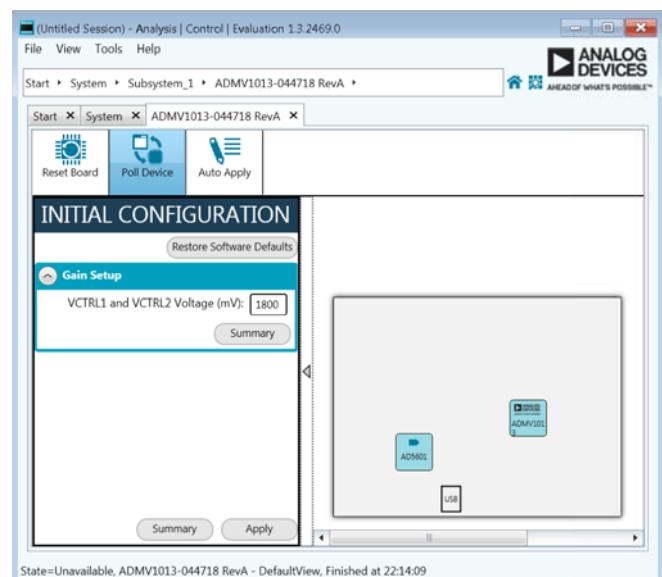
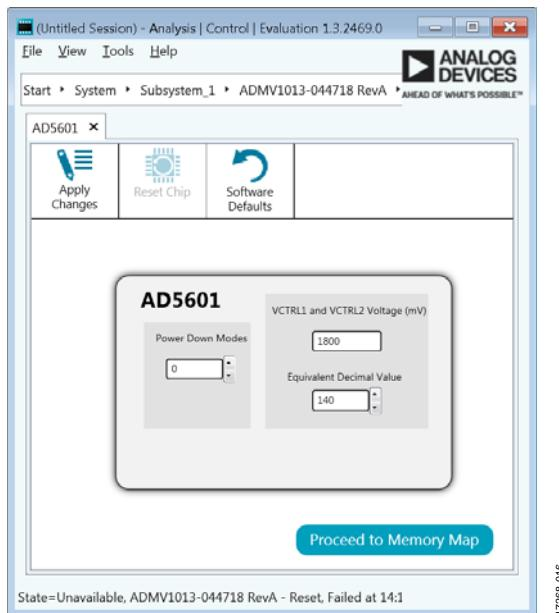

Figure 12. Initial Configuration for the Gain Setup and Board Plugin View
Figure 16. AD5601 *nanoDAC* User Interface
5. When the ADMV1013-EVALZ plugin is double clicked, the **ADMV1013-044718 RevA** tab shown in Figure 12 opens. On the left side of the window, open the **INITIAL CONFIGURATION** section, click **Gain Setup**, and enter the V_{CTRL} in the **VCTRL1 and VCTRL2 Voltage (mV)** box. Note that 1800 mV is the highest gain setting for the device.
The ADMV1013-EVALZ evaluation board comes with the AD5601 *nanoDAC*. The AD5601 *nanoDAC* sets the V_{CTRL} voltage for the VCTRL1 and VCTRL2 pins of the ADMV1013. When the ADMV1013 plugin opens, enter the V_{CTRL} voltage in the VCTRL1 and VCTRL2 Voltage (mV) box in the INITIAL CONFIGURATION section to set the voltage (see Figure 12). Note that 1800 mV is the highest gain setting for the devices.
When using an external power supply for the V_{CTRL} voltage, use the AD5601 *nanoDAC* plugin to change the voltage or power down the AD5601 *nanoDAC*. To open the AD5601 *nanoDAC* plugin, double click the AD5601 button in the ADMV1013-044718 RevA tab (see Figure 12). Figure 16 shows the AD5601 *nanoDAC* user interface. The user interface contains the Power Down Modes box, the VCTRL1 and VCTRL2 Voltage (mV) box, and the Equivalent Decimal Value box.
After making any changes to the voltage or to the power-down mode, click **Apply Changes** (see Figure 16). To allow the changes to take place automatically, select **Auto Apply** in the ADMV1013-044718 RevA tab. There is no need to click **Apply Changes** after selecting **Auto Apply**.